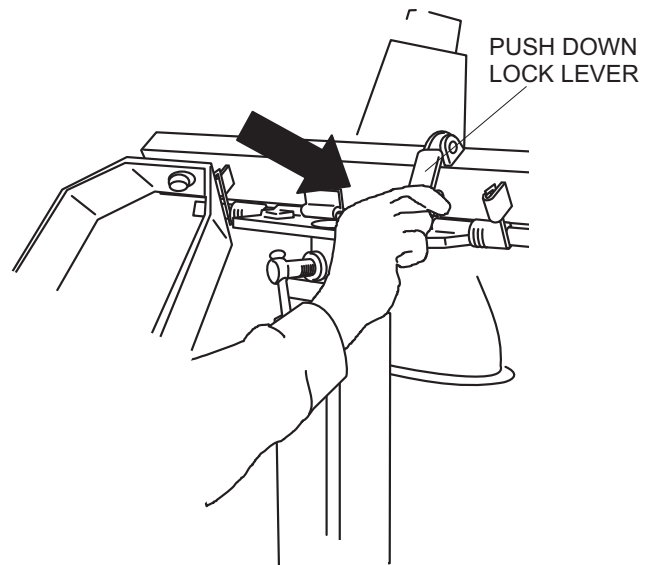

Figure 24. Locking Lamp Stand
4. Push down the lighting unit (Figure 24). Some force is required when pushing down because of the installed springs.
5. After lighting unit has been completely pushed down, push down fold lever (Figure 24) to lock the lamp stand in place.